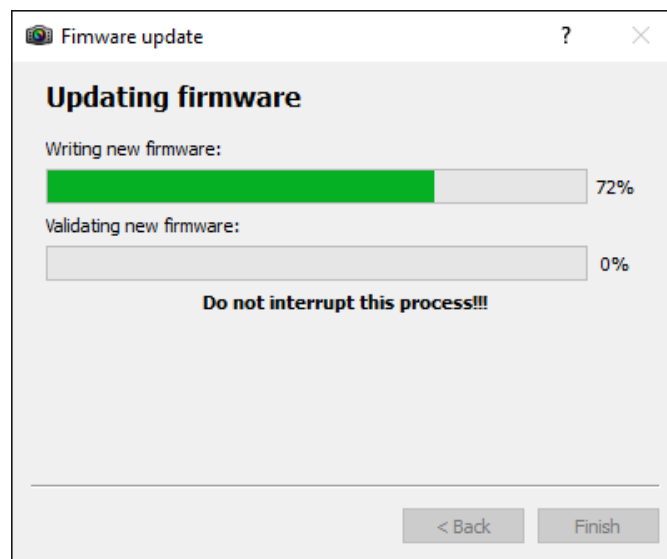

Figure 40 – Firmware update process window
4. The following window displays the initiated firmware update. The firmware update process is displayed in the first progress bar, and the firmware validation is displayed in the second, as shown in Figure 40.